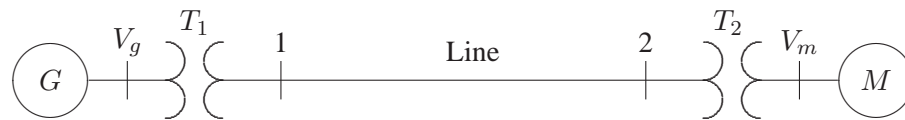

FIGURE 30
3.15. The three-phase power and line-line ratings of the electric power system shown in Figure 30 are given below.